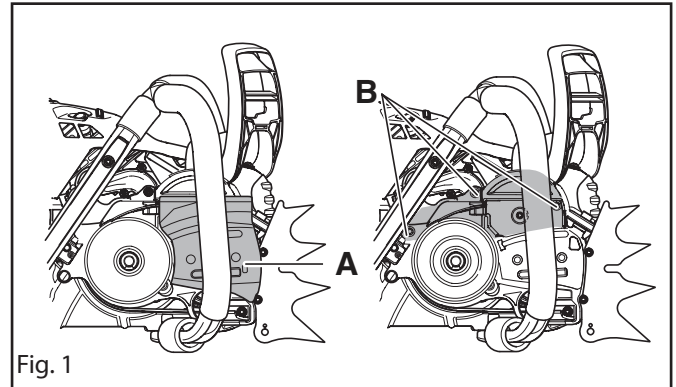

Fig. 1
2. Remove the chain guide-plate (A). See figure 1.
5. Hold two fingers steadily on the cover over the chain brake mechanism. Unscrew the three screws (B). See figure 1.